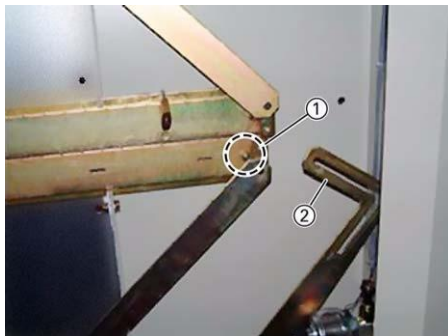

Fig58. Lower shutter drive lever
Step2..... Remove the M8 nut and 2 washers from the lower shutter drive lever (pos.nr. ① in fig58)
Step3..... Move the lower shutter drive lever aside lever (pos.nr. ② in fig58).